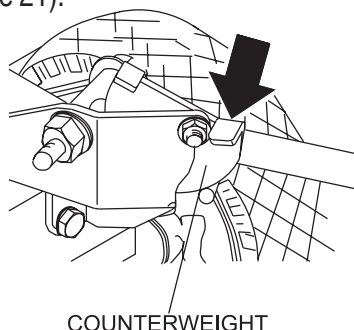
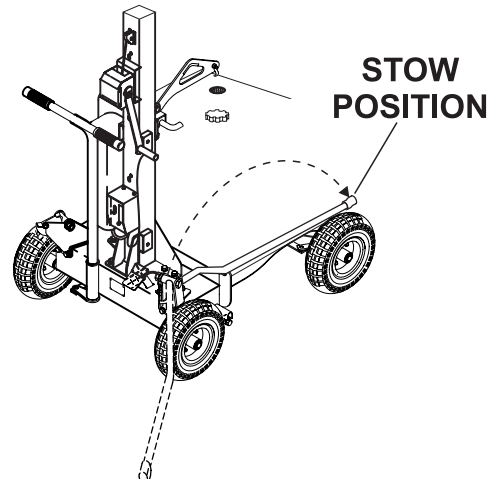

Figure 20. Outriggers (Released)
Figure 21. Outriggers (Stow Position)
7. To unlock outriggers, push downward on the counterweight lever indicated by arrow (Figure 20). Grab hold of outrigger, pull upward, push down and place in stow position (Figure 21).